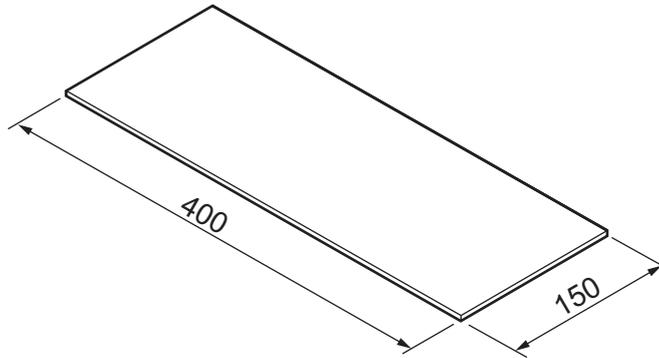

Fig. 13.4
- (ii) The lampshade could be made by heating a sheet of acrylic and forming it to the shape of the lampshade. Fig. 13.4 shows a sheet of acrylic that could be formed to produce a lampshade with a diameter of approximately 120 mm.